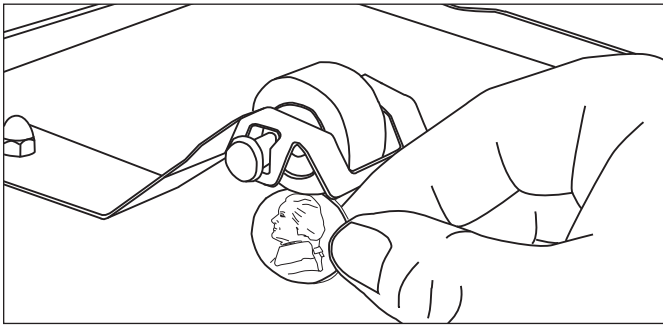

Figure 15. Measuring Roller Tensioner
1. Remove the acorn nuts and old Roller Tensioner assembly (Figure 15).